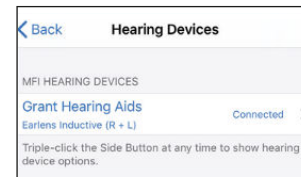

Figure 4. Hearing aids paired and connected
- 7 When your hearing aids are paired and connected, you will see the word "Connected" (Fig.4) in the main Hearing Devices screen.